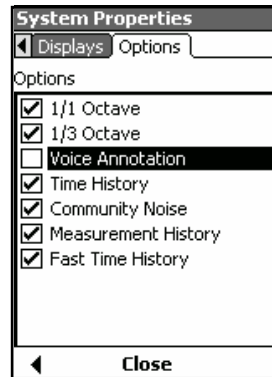

FIGURE 12-36 Voice Annotation Option will be Hidden on the Meter
Step 2 To display or hide any option(s) in the interface, press **ENTER** to enter the dialog mode, then use the **←** and **→** arrow keys to highlight an option and use **↵** and **ENTER** to toggle the state of the option between hidden (unchecked) and displayed (checked). In FIGURE 12-36, the Voice Annotation option has been hidden on the meter.